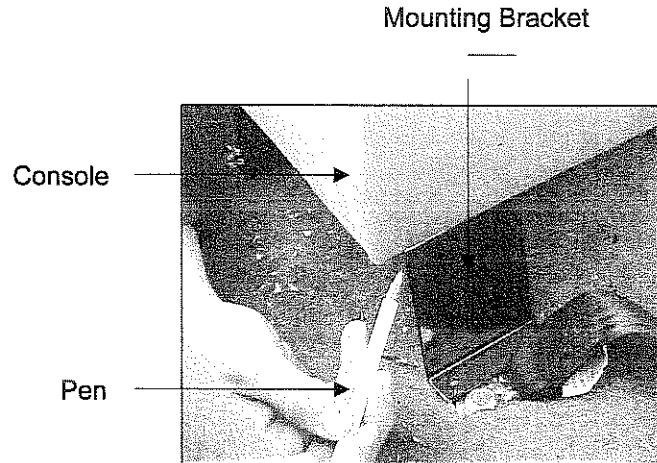

Figure 4
4. Use a pen to mark the position of the Mounting Bracket on the bottom of the Console (Figure 4).